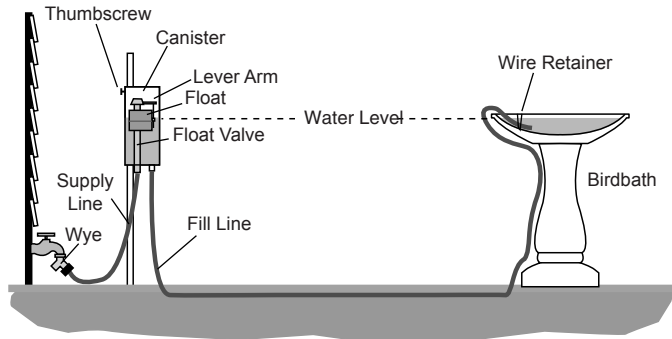

Figure 1
3) Slide the Canister onto the pole and lower it until the middle of the Canister is approximately the same height as the rim of the birdbath. Tighten the Thumbscrew to hold the Canister in place (refer to Figure 1).